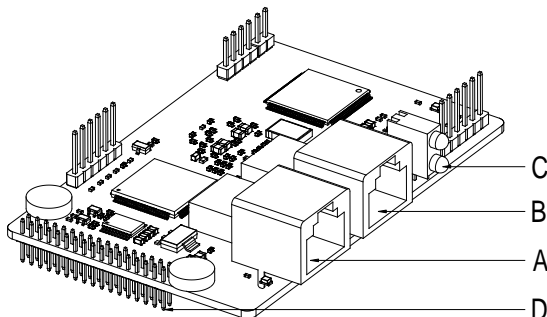

Figure 1 Communication card components
- Screen-printed model on the PCB, which is used to determine whether the communication card is correct, as shown in figure 1
The components of the communication card are shown in Figure 1.